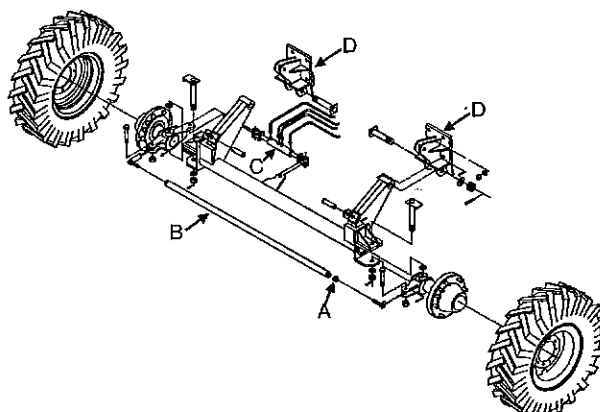

Figure 15. Steerable Carrier Wheels
1. To adjust tires to parallel: loosen the jam nut (Figure 15-A) that is located on one end of the tie rod (Figure 15-B). Rotate the tie rod until the tires are aligned and then tighten the jam nut. Allow a slight toe in.
2. To adjust the tires to straight ahead: remove the yoke pin at the adjustable end of the cylinder (Figure 15-C). Loosen the locknut on the cylinder rod and turn the yoke to set the direction of the tires. Tighten the jam nut on the yoke. Check tracking by observing the machine under actual field running conditions. The sides of the machine should be parallel with adjacent rows. For a more precise determination, measure the distance from the front and rear corners of the machine to an adjacent row center. The measurements should be equal.
3. To adjust the height, first block the harvester frame to prevent slipping. Using an adequate lifting device, raise the harvester frame. Support the rear axle with another lifting device of sufficient capacity. Loosen the four 1" x 8" bolts that secure the carrier mounts (Figure 15-D) to the rear frame. Remove the bolts and raise or lower the carrier mounts to the desired location. Tighten the bolts to the recommended torque. (See table 4, page 49.)